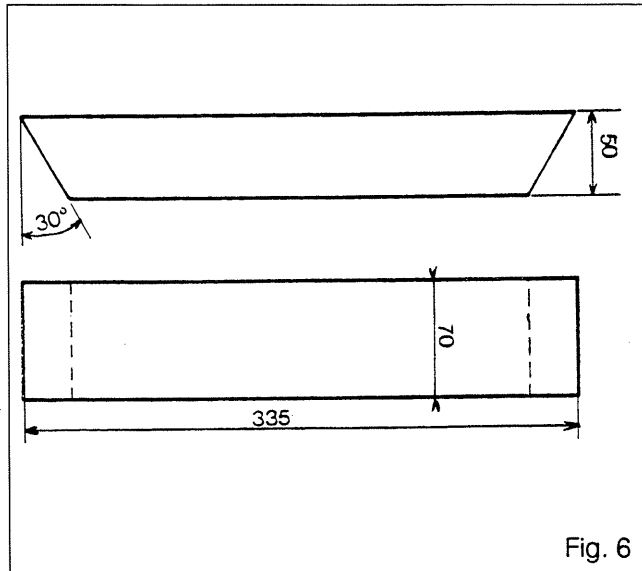

Fig. 6
- Remove bolt (32), retaining washer (30) and shim or shims [29]. Remove the planetary carrier assembly.
- Extract the ring gear (16) using a 30-tonne press, with a round section of 60 dia. by 900 and a flat bar as per Fig. 6.